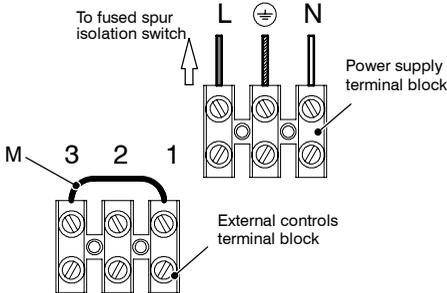

Fig. 6.16
- 6 Connect the electrical supply flexible cord coming from the fused spur isolation switch to the power supply terminal block of the boiler (Fig. 6.16) keeping the same connections for the live (brown wire) and the neutral (blue
When connecting any type of external control, the link M in Fig. 6.16 must be removed.